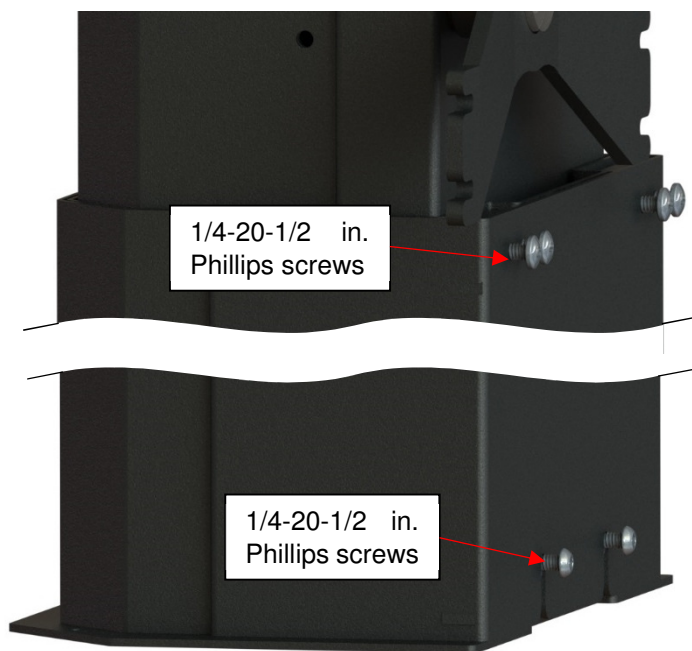

Figure 59
- 1) Untighten the four top 1/4-20-1/2 in. Phillips screws to have an approx. 1/4 in. (6.35 mm) gap between the heads of the screws and the sleeve. (Figure 59)
- 2) Untighten the two bottom 1/4-20-1/2 in. Phillips screws to have an approx. 1/4 in. (6.35 mm) gap between the heads of the screws and the sleeve. (Figure 59)